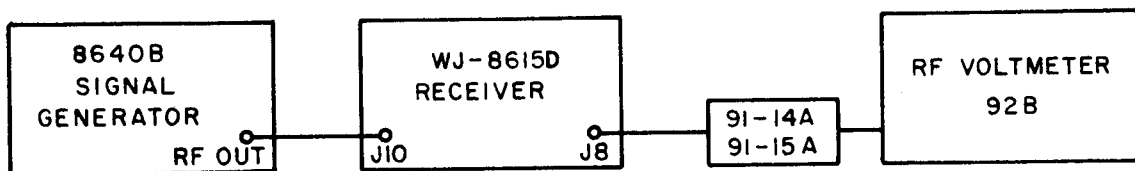

Figure 4-20. Gain Control Alignment, Equipment Connections
- 15) Connect the test equipment as illustrated in **Figure 4-20**.